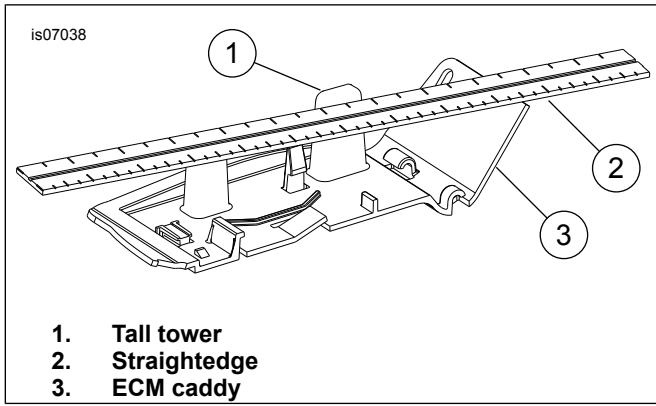

Figure 1. Place Straightedge Across Caddy
- c. If equipped with a "tall tower" ECM caddy (see Figure 1), follow steps 2d through 2h. If **not** equipped with a tall tower caddy, proceed to Step 3.
- e. See Figure 1. Place the ECM caddy (3) on a firm surface. Place a straightedge (2) across the ECM caddy as shown. Mark or scribe the taller tower (1) from the **underside** of the straightedge.